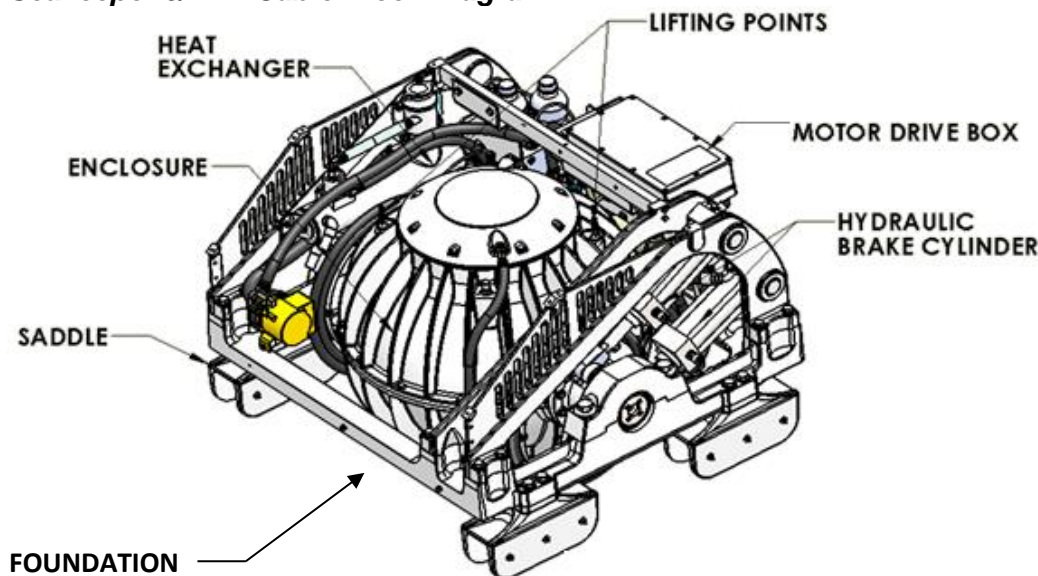

FIGURE 1 – SEAKEEPER 9
- While handling / installing the Seakeeper assembly, protect exposed hydraulic brake cylinder rods (See Figure 1) from scratches or damage as this could lead to premature seal failure and oil leaks.